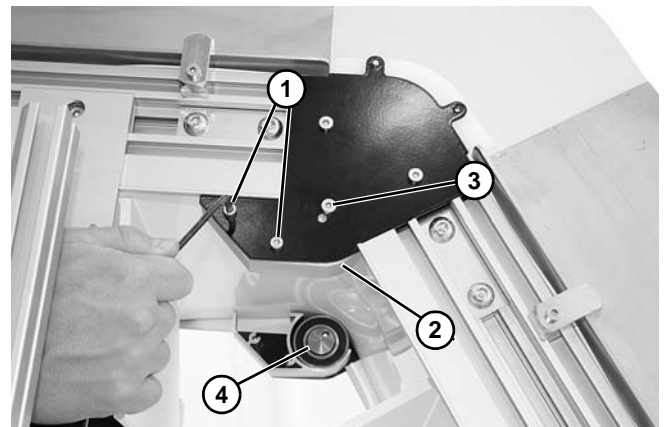

Figure 133
1. Remove screws (**Figure 133, item 1**) on the worn bearing side of the knuckle and remove guard (**Figure 133, item 2**).
2. Remove screw (**Figure 133, item 3**) and remove worn roller bearing (**Figure 133, item 4**).
3. Replace worn bearing with new bearing, use screw (**Figure 133, item 3**) to attach new bearing.
4. Replace guard (**Figure 133, item 2**) and secure with screws (**Figure 133, item 1**).